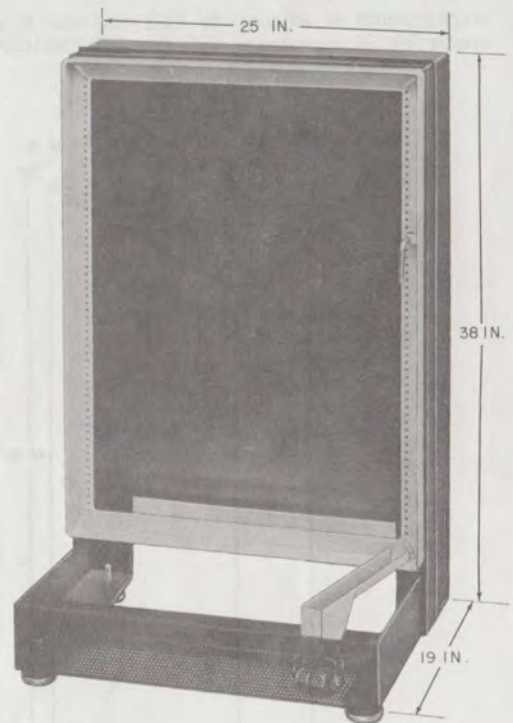

Fig. 18—34C Cabinet
4.09 The 34C cabinet (Fig. 18) is a general use, floor-standing unit consisting of a steel bottom and back and a hinged carrier gate. A caster supports the weight of the gate when it is open. Glides or optional casters (D-180700 Kit of Parts) are attached to the bottom corners of the cabinet for easy moving. The back provides a mounting surface for 100-, 101-, and 102-type connecting units; the gate provides a mounting space for a 2-type power panel and one or two 702- or 703-type panels. With a 154A cover installed, the cabinet is 20 inches wide, 19.6 inches deep, and 39.4 inches high overall.